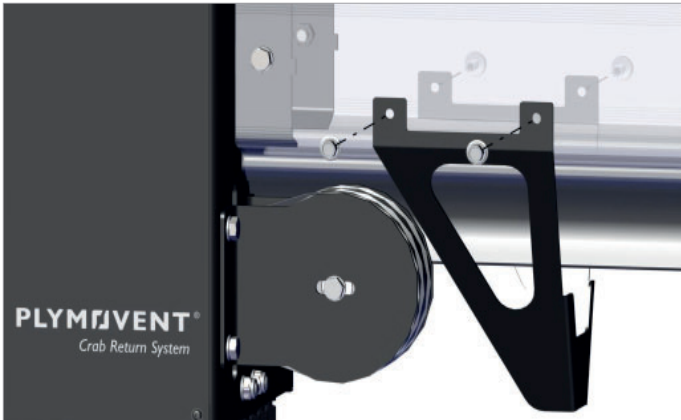

Fig. 4.3.7 Mounting the stop bracket
- Mount the stop bracket to the rail using self-tapping screws $\frac{1}{4} \times 1$ in. (6.3 x 25 mm). Mount the stop bracket 8 in. (200 mm) from the end of the rail. Refer to fig. 4.3.7.